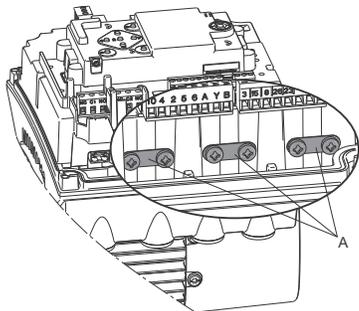

Fig. 16 Connecting the cable screens to earth
7. Connect the cable screens of the bus cables to earth via one of the earth clamps (fig. 16, A).